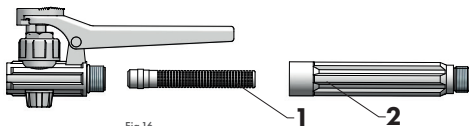

Fig.16
The filter (Fig. 16/item 1) located in the lance handle (Fig. 16/item 2) and the nozzle (Fig. 16/item 1) at the end of the lance (Fig. 1/item 6) should be cleaned periodically or before any extended period without operation.